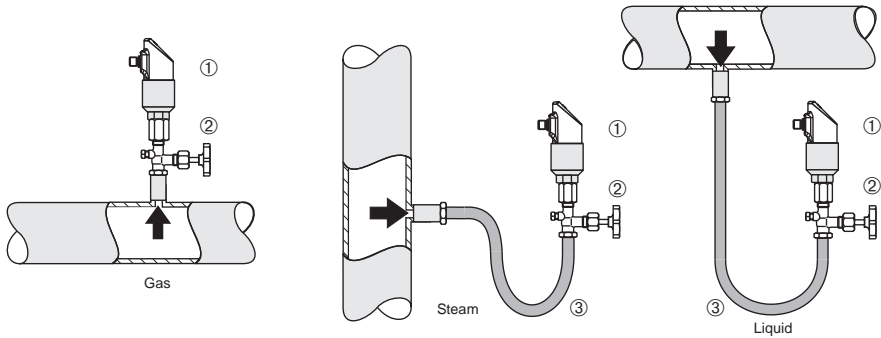

Fig. 3: Typical applications of the Bulletin 836E to measure pressure in gases, steam and liquids.
For typical applications of the Bulletin 836E, see Figure 3 above:
- For pressure measurement in liquids, see the drawing on the right of Figure 3 above. The Bulletin 836E should be mounted below or at the same level as the sampling nozzle.